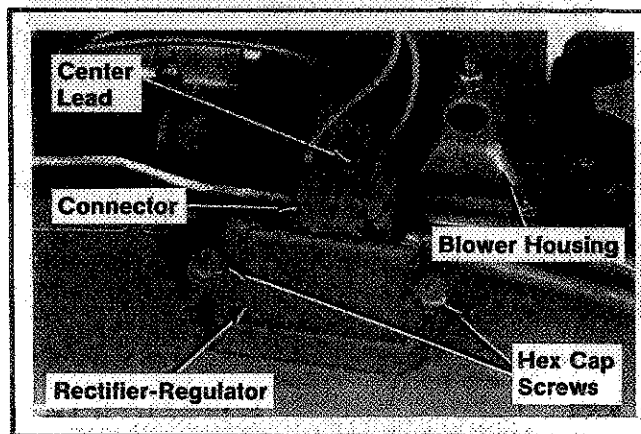

Figure 9-9. Removing Rectifier-Regulator.
1. Remove the connector from rectifier-regulator. Remove the lead from center position of connector. Remove the hex cap screws and rectifier-regulator. Refer to Figure 9-9.